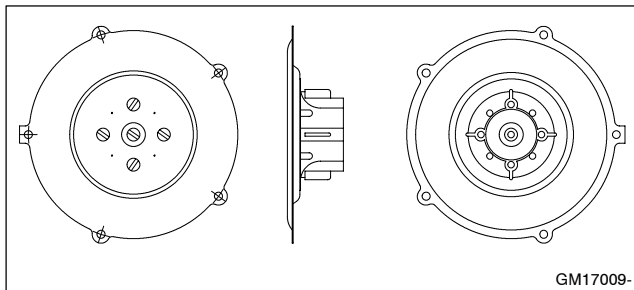

Figure 4 Fuel Diaphragm
- 2.2 Remove the fuel mixer top plate and natural gas fuel diaphragm. See Figure 4. Save the natural gas fuel diaphragm for possible future conversion back to natural gas.